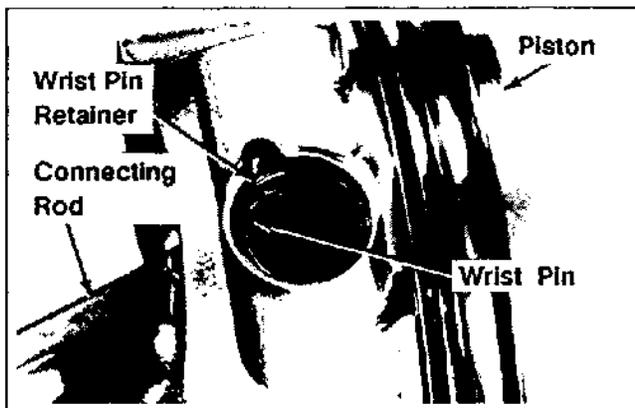

Figure 11-6. Installing Piston To Connecting Rod.
1. Install the piston, connecting rod, piston pin, and piston pin retainers. See Figure 11-6.